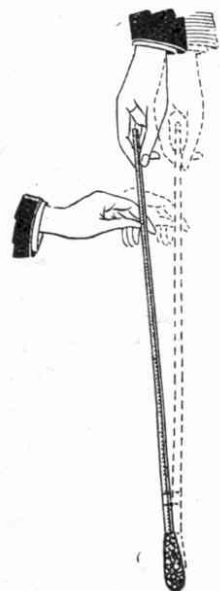

Fig. 3
The condition illustrated in Fig. 3 arises when the resistance caused by starting up the car is overcome, and when the lever pivots on the weight (C). In these circumstances the drive from the engine is practically a direct drive to the back axle.